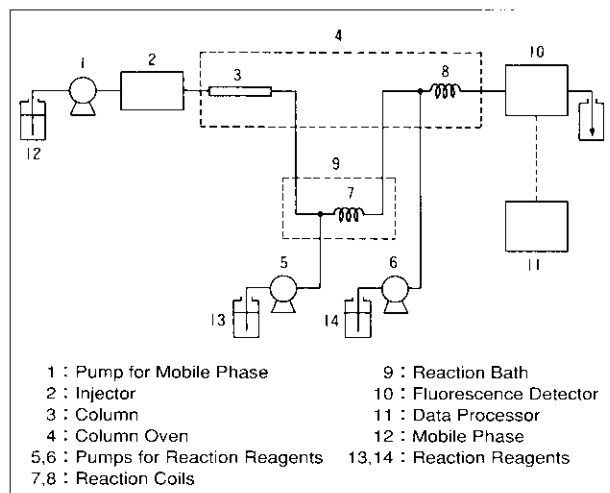
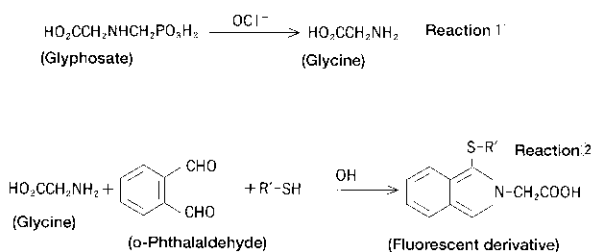
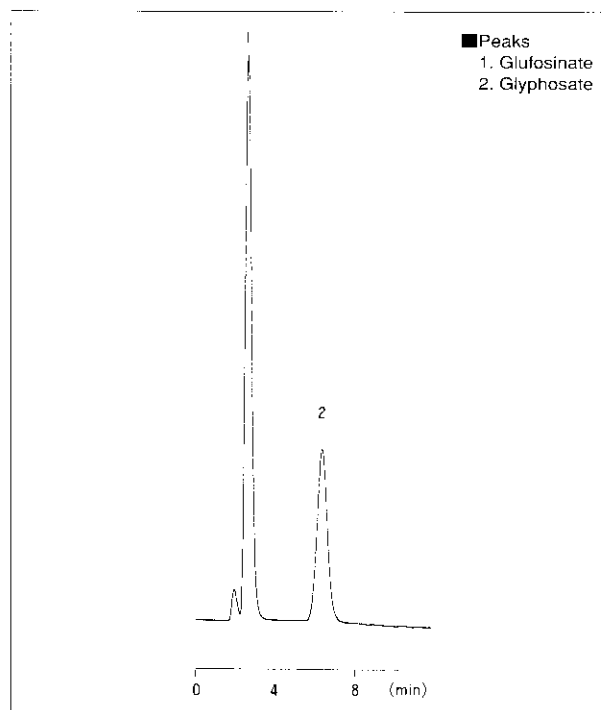

Fig.2 Flow Diagram
Fig.5 Derivatization Reaction for Glyphosate
Fig.6 Chromatogram of Standard Mixture
Figure 2 shows the flow diagram of a system designed for the analysis for N-methylcarbamate pesticides by making use of such a reaction. After separation of compounds by reversed phase chromatography, the above-mentioned two reactions are let to occur in turn so that fluorescence detection may be possible.
Glyphosate, which is a water-soluble pesticide, reacts with hypochlorite under ambient temperature and generates glycine. Then, when mixed with an OPA reagent, it becomes detectable by a fluorescence detection method (Figure 5). Here, Glyphosate was separated by the anion exchange chromatography and was derivatized, and detected by fluorescence detection. The construction of the system was the same as that for Figure 2, but is different in the composition of reaction reagent 1 and the temperature used.
Figure 6 shows a chromatogram of a standard mixture. Here, Glufosinate and Glyphosate were simultaneously analyzed; in this analysis, with respect to Glufosinate, which is a primary amine, only combination with OPA which corresponds to reaction ② of Figure 5 occurred.